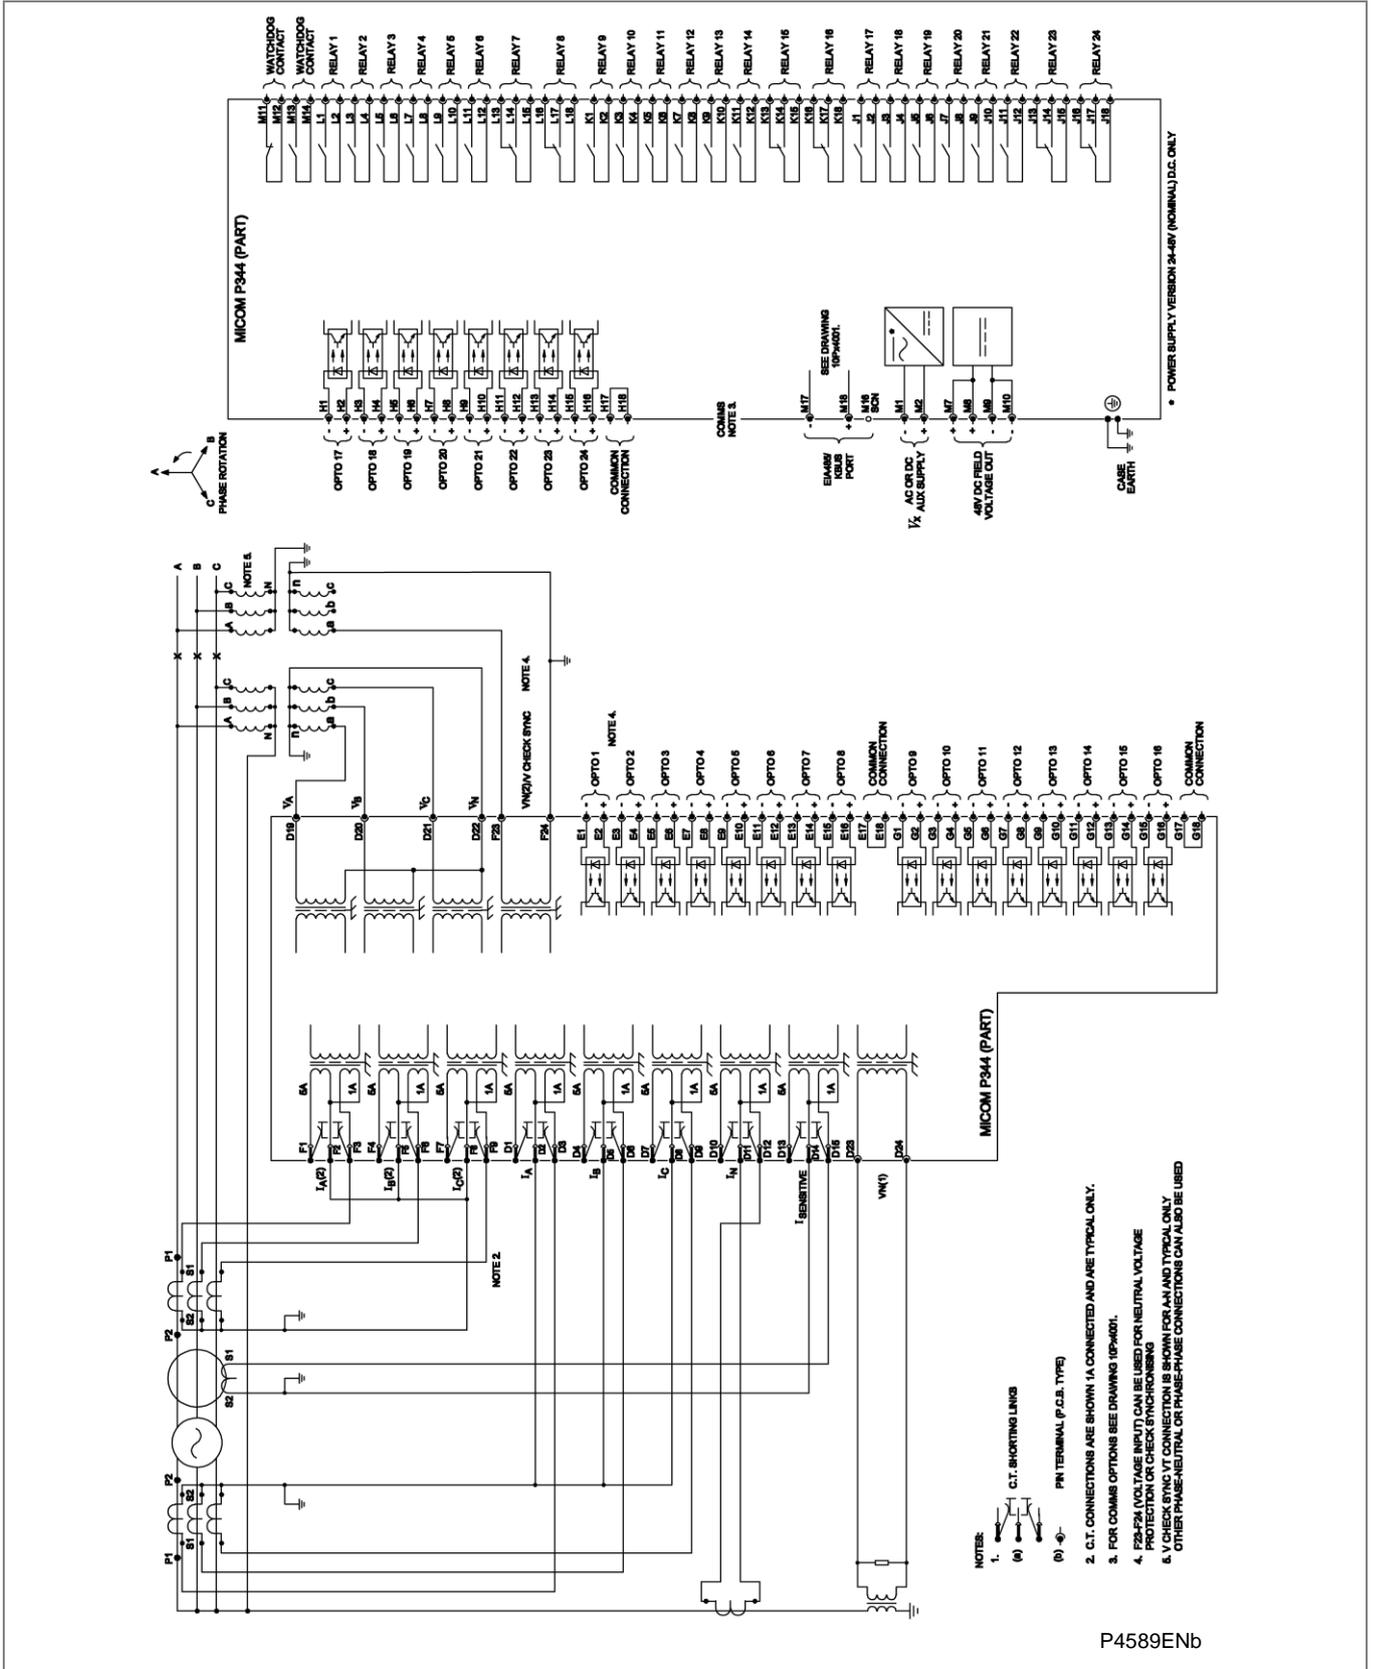

Figure 41 - P344 (80TE) for biased differential and check synchronizing (24/I/P & 24 O/P)
- Figure 41 - P344 (80TE) for biased differential and check synchronizing (24I/P & 24 O/P)